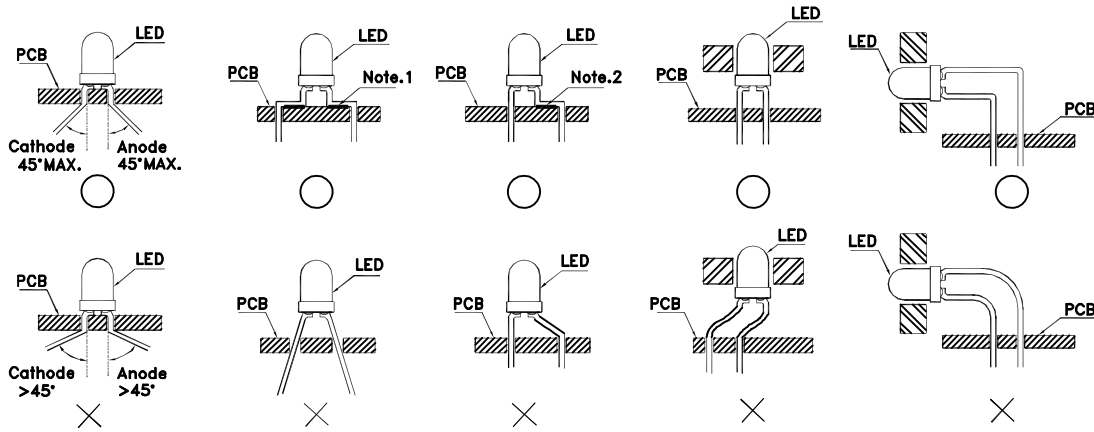

Fig. 1
1. The lead pitch of the LED must match the pitch of the mounting holes on the PCB during component placement. Lead-forming may be required to insure the lead pitch matches the hole pitch. Refer to the figure below for proper lead forming procedures. (Fig. 1)